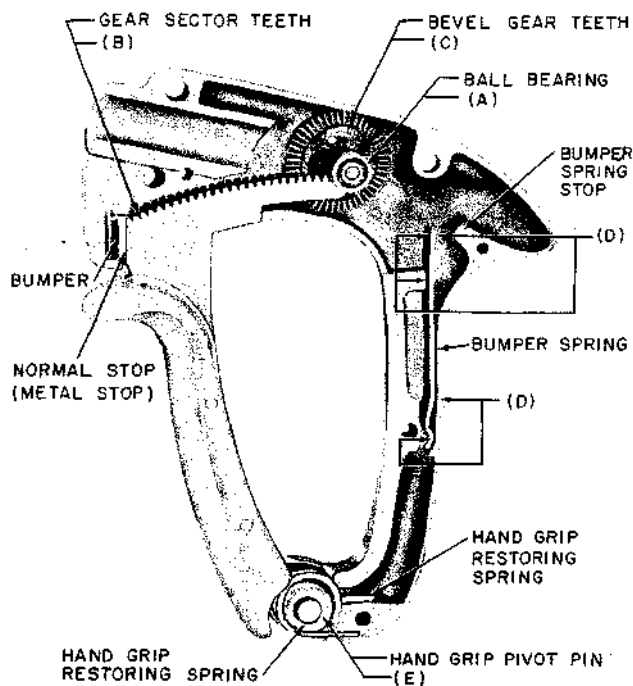

Fig. 3—KS-16363 L1 Hand Wire-Wrapping Tool—Interior View Showing Gearing and Associated Parts
Ball Bearings, Fig. 3(A)	Space between inner and outer races of both ball bearings filled with KS-7471 grease
Teeth on Gear Sector, Fig. 3(B)	Five discharges of KS-7471 grease from the 353C grease gun distributed over the teeth
Teeth on Bevel Gear, Fig. 3(C)	Eight discharges of KS-7471 grease distributed over the teeth
Bumper Spring, Fig. 3(D)	One discharge of KS-7471 grease distributed over the five contacting surfaces indicated
Hand-Grip Pivot Pin, Fig. 3(E)	One drop of KS-7470 oil